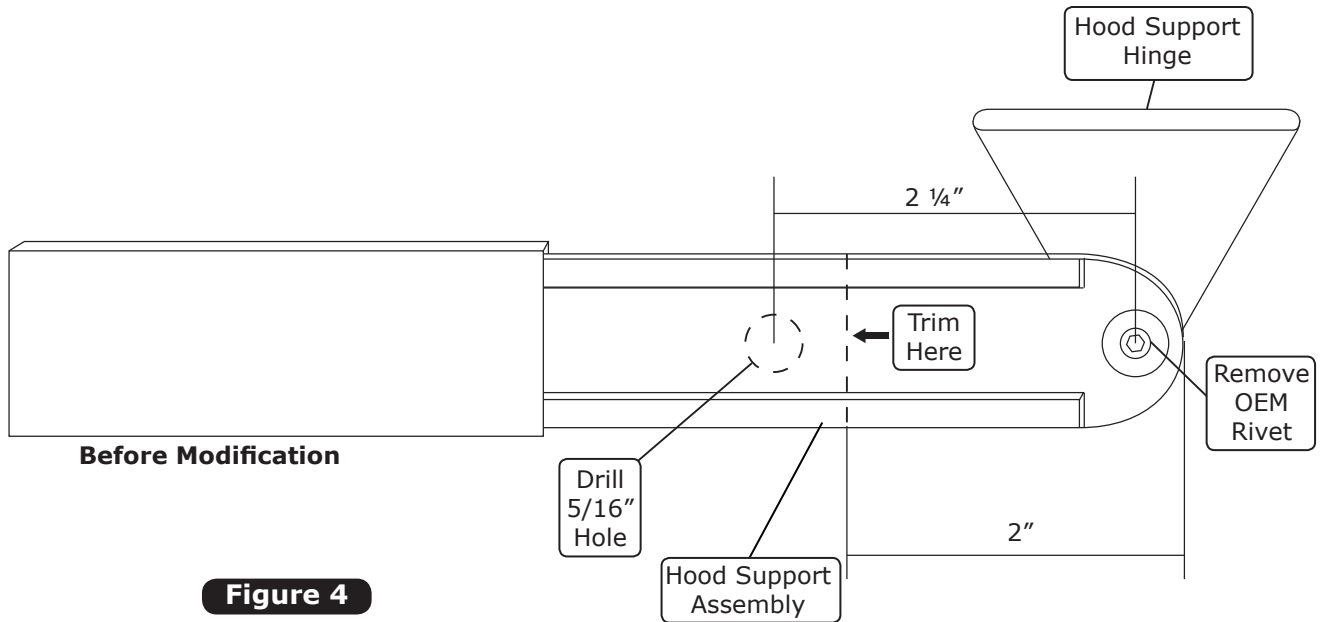

Figure 4
1. Remove the OEM rivet connecting the hood support hinge and the hood support assembly (See Figure 4, below).
2. Trim the hood support assembly using the measurements shown in Figure 4, below.
3. Drill a 5/16" hole in the hood support assembly using the measurements shown in Figure 4, below.